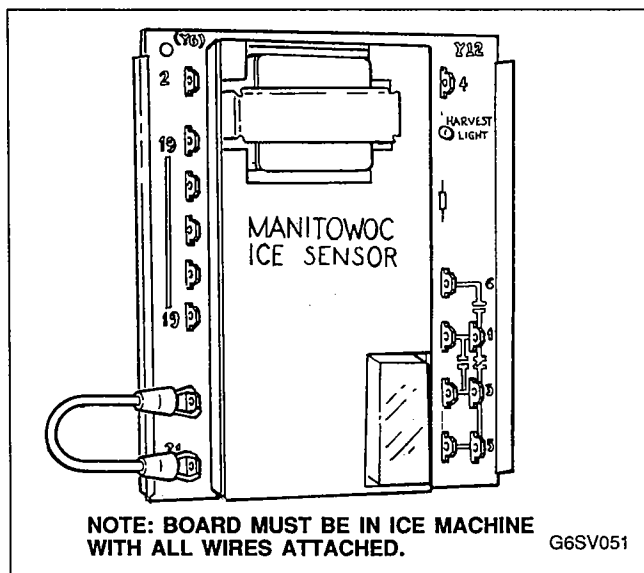

FIGURE 33. UNITIZED SENSOR BOARD
Step 3: Disconnect wires from terminals 20 and 21 on board. Connect jumper wire to terminals 20 and 21, Figure 33.